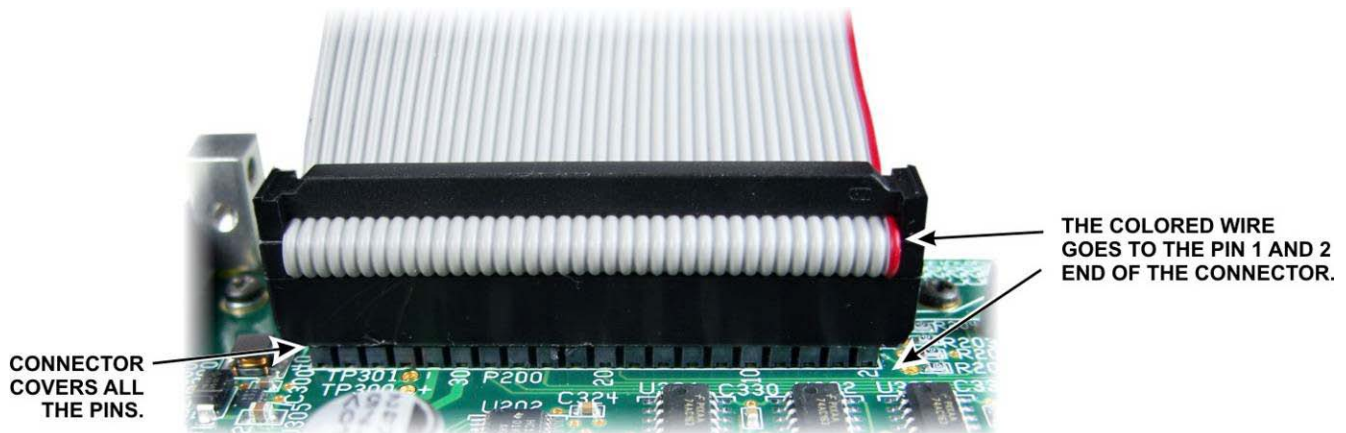

Figure 21. Mating the 40-pin Connectors.
Plug the ribbon cable into P200 on the display board with the colored edge of the cable at Pin 1 (the bottom of the connector when the board is oriented normally). Be sure the connectors are properly aligned so that all pins engage and they are fully mated as shown in Figure 21). One pin has been removed from the connector on the pc board and the corresponding hole in the cable connector is plugged to help ensure they are properly aligned end-to-end but check carefully to ensure the connector is mated to both rows of pins.
- Plug the free end of the ribbon cable into P504 on the I/O board or, if the P3SVGA board is installed, into P102 on the P3SVGA board. Be sure the red edge is at the Pin 1 end of the connector (the end nearest the bottom). To avoid stressing the board, support it with your fingers while mating the connector by placing your fingers on the side of the board opposite the connector and squeezing the connector in place with your thumbs. Be sure the connectors are properly aligned so that all pins engage the cable connector just as you did on the display board (see Figure 21).